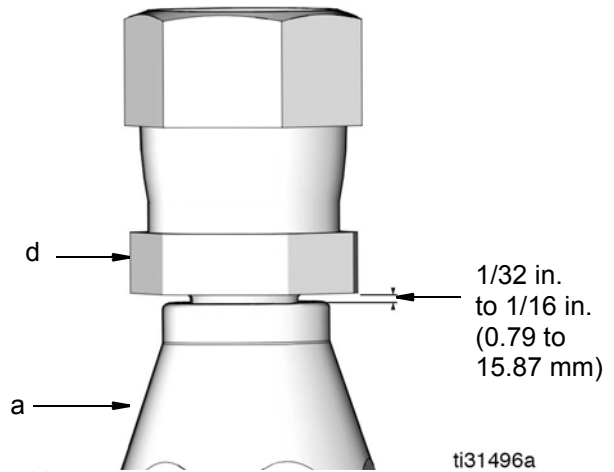

FIG. 62
8. Leave 1/32 to 1/16 inch (0.79 to 15.87 mm) clearance between socket (a) and hex (d) (FIG. 62).